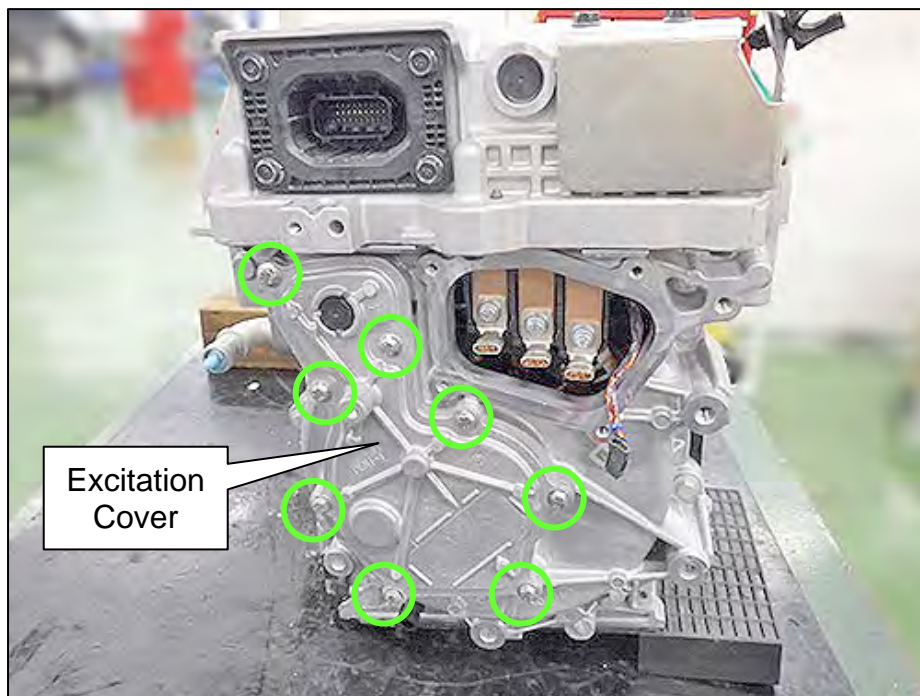

Figure 100
120. Remove Excitation Cover mounting bolts, and then remove Excitation Cover (Figure 100).
- Eight (8) bolts.
- Refer to Figure 100 on page 51.